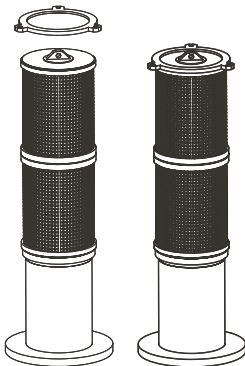

Figure 17.
6. Remove hold-down plate from packaging and place on top of cartridge. The plate should rotate over but not slide. Figure 17.